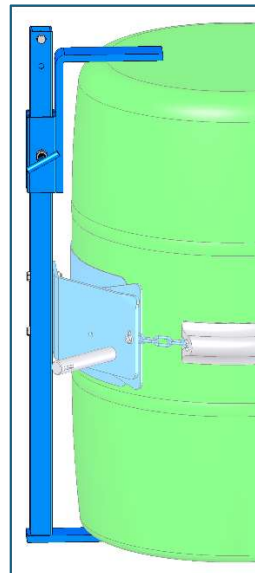

Figure 2.1
**Bracket Assembly Kit 4556-P** is required to handle a RIMLESS plastic drum (figure 2.1), and is also recommended for a fiber drum. The Bracket adjusts for a 31" to 39" (79 to 99 cm) tall drum. You can also handle a rimmed drum with the Bracket installed.